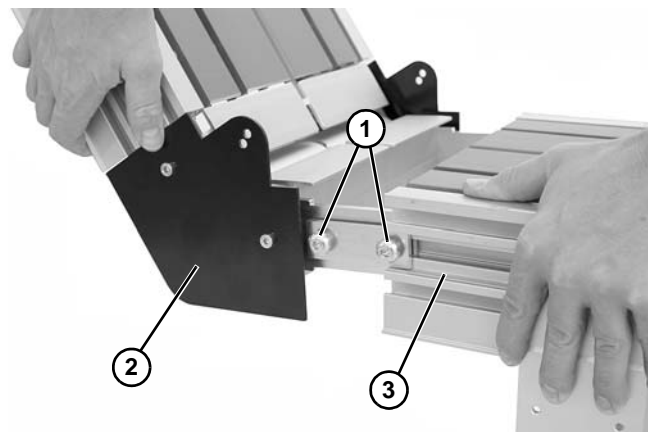

Figure 12
- Roll out conveyor belt. Loosen (4) bolts (**Figure 12, item 1**) on both sides of knuckle (**Figure 12, item 2**). Slide frame (**Figure 12, item 3**) into knuckle (**Figure 12, item 2**). Tighten bolts (**Figure 12, item 1**) to 60 in-lb (7 N-m) on both sides of conveyor.